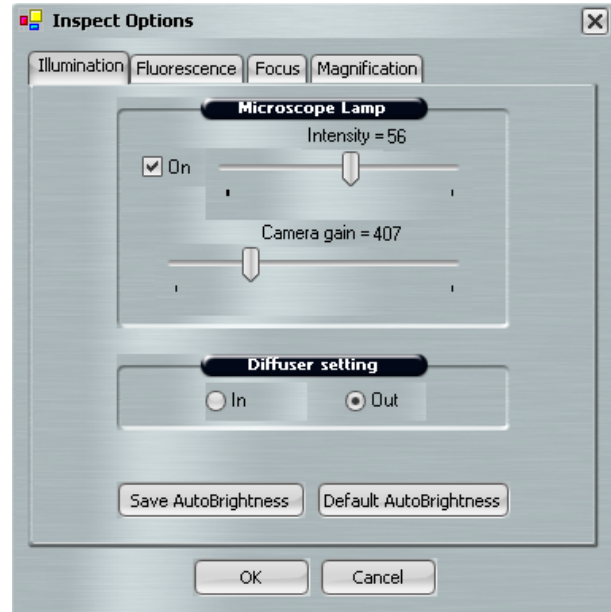

Figure 26 The illumination tab
Note: The brightness value corresponds to the shutter speed/exposure time of the camera. If the value in the brightness control is > 0.5 seconds, the time needed for the main image window to refresh after you move the stage may be slow. If this is the case, adjust the Intensity and Camera Gain in the Illumination tab in the Inspect Options dialog box (see Figure 26 on page 40) so that you can set the brightness value lower.
3. Click the **Illumination** tab (see Figure 26).